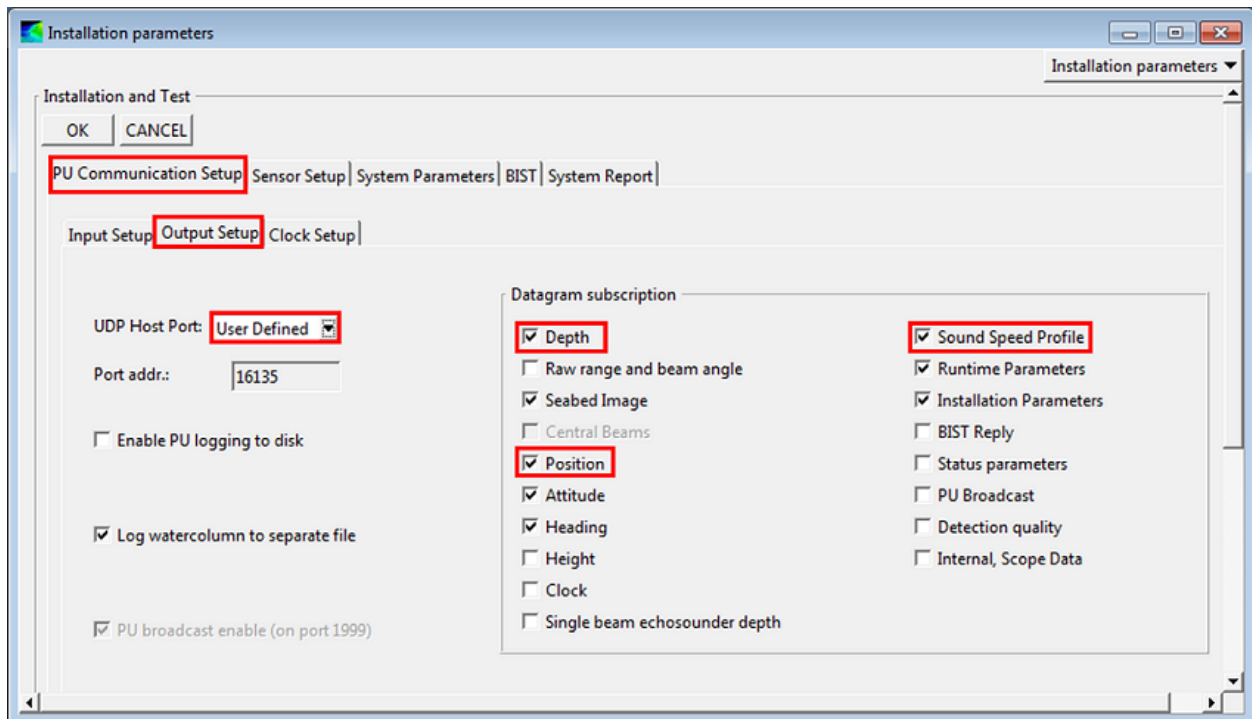

Fig. 2.6: *SIS* Installation parameters dialog, with key settings in red for *Method A: Sound Speed Manager and SIS v4 Installed on the same Computer*.
- Access the *Installation Parameters* dialog (see Fig. 2.6) from the *View* menu by choosing *Tear off* and then *Installation Parameters*